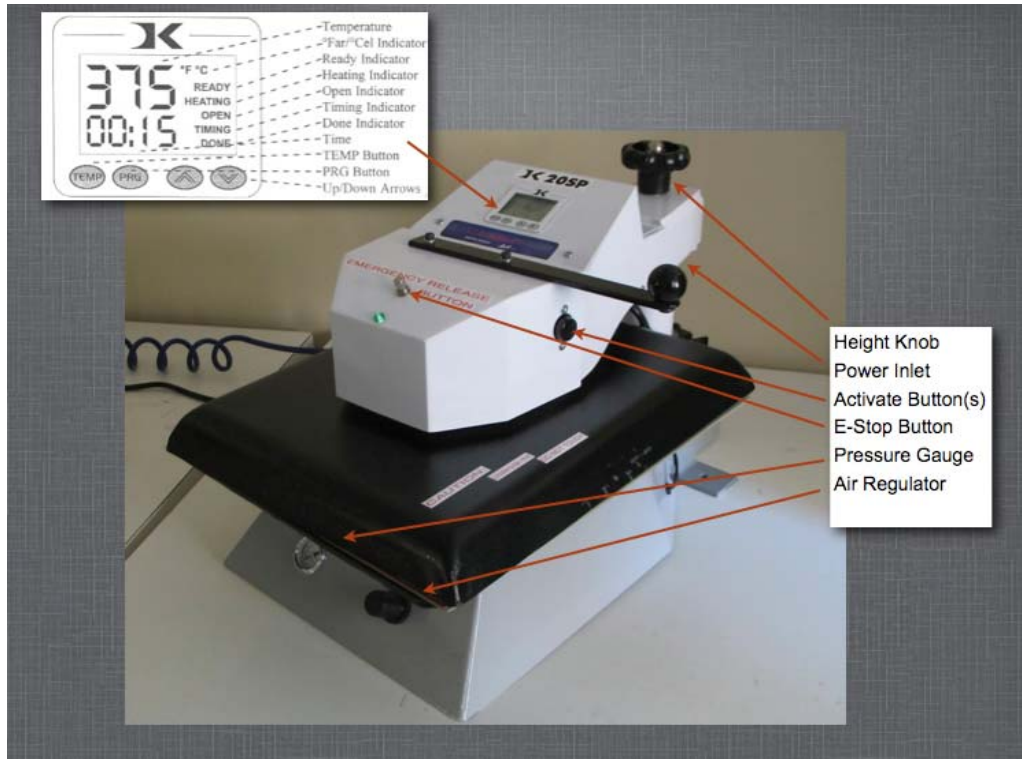

Fig. 4. DK20SP 16X20 Automatic Digital Swinger (Scale Press) and Default Operation Mode of Controller.
- DK20SP 16X20 Automatic Digital Swinger swing-away heat transfer press (Fig. 4 & 5)
1. Turn on the scale press (Fig. 4) and wait for the temperature to reach 107° C before starting to press scale cards. It takes approximately 5 minutes for the scale press to reach the recommended operating temperature. First time scale press users should read the DK20SP 16x20 Automatic Digital Swinger operational manual which is located in the Sclerochronology Lab (Room T102B).
4. Activate the scale press for 3.5 minutes before adding scale cards. This allows the silicone pads to heat up and ensures that all books receive an equal amount of heat exposure. Make sure the top and bottom plates are aligned and push both Activate buttons. The compressed air will push the plates together. The machine will count down the time and open when completed (you will hear the compressed air discharge from the air bladder). There is an E-stop button on the front of the machine (Fig. 4) which will automatically release the pressure in case of emergency.